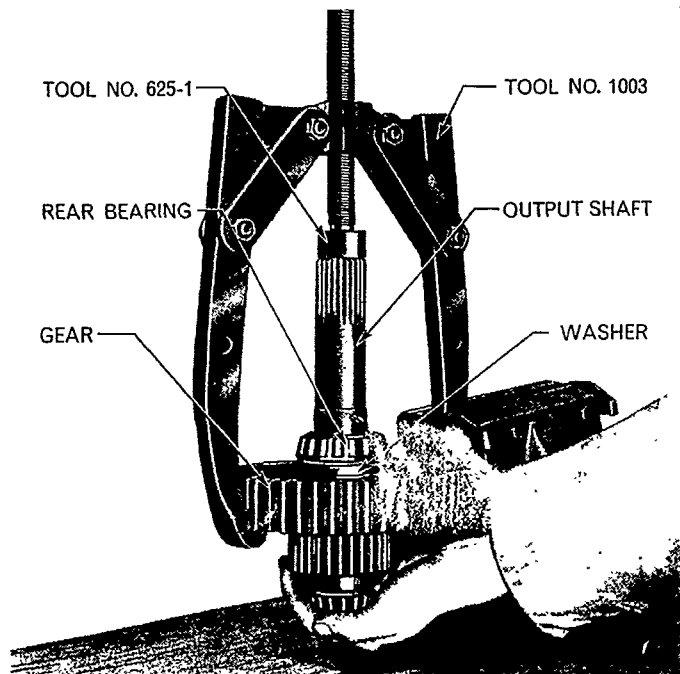

Figure 69
1. Examine the output shaft assembly for wear or damage. Renew any defective parts by using Tools Nos. 1003 and 625-1 to draw off the gear, bearing cone and roller assembly, and thrust washer in one operation, Figure 69.